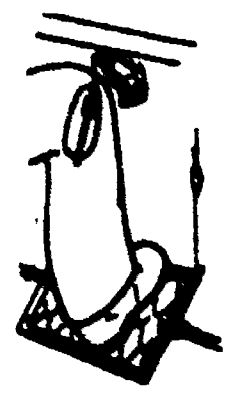

Figure 6. Operation of Knee Presser Foot Lifting Lever.
4. Operate the knee presser foot lifting lever by pushing firmly against it with the right knee, as in figure 6.